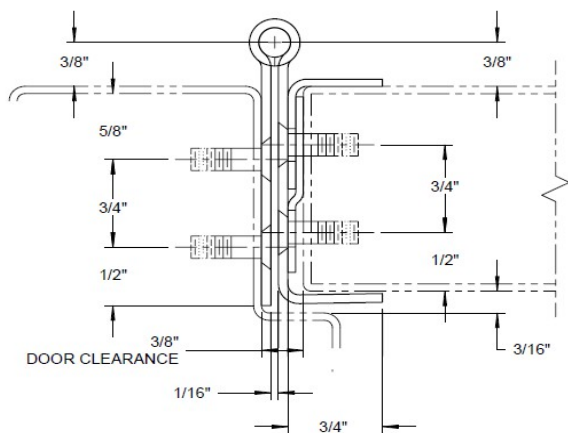

FIGURE 1: HINGE PLACEMENT & CLEARANCE TEMPLATE
- Perform each step of these instructions unless specifically labeled (A), (B), (C), (D) or (E).
- (1) Place the hinge on the frame as shown in Figure 1 on the other side of these instructions.
- (2) Mark all the hole locations on the door jamb with the hinge held firmly in place.
- (3) Center punch each hole. The use of the Markar MT-806 center punch can help center the hole so that the fasteners will enter straight. The taper on the tool sits in the countersunk hole on the hinge.
- (4) Using a #25 bit,
- (A)&(B) drill all the frame holes.
- (C) drill only the top and bottom holes in the frame.
- (5) (B) Tap the holes for a 10-24 thread. **Do not** install the hinge to the frame at this time.
- (6) Place the hinge on the edge of the door. Carefully line up the hinge with the top of the door. Check handing.
- (7) Mark all the hole locations on the door with the hinge held firmly in place.